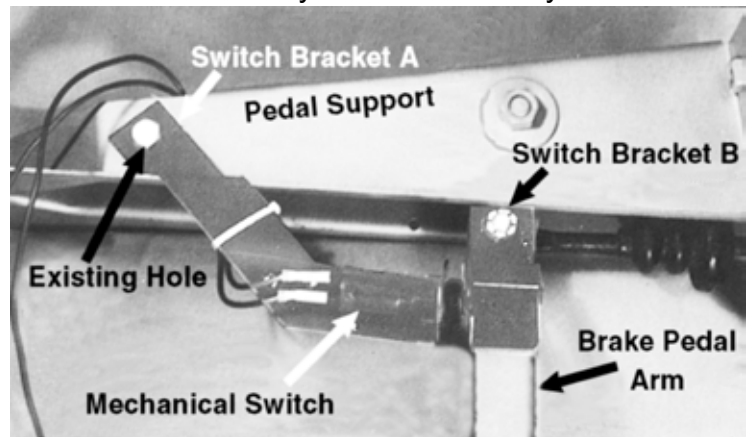

Fig. 1 Attaching Switch Brackets
Refer to figure 1
8. Pass wires up through pedal support bracket as shown in figure 1.